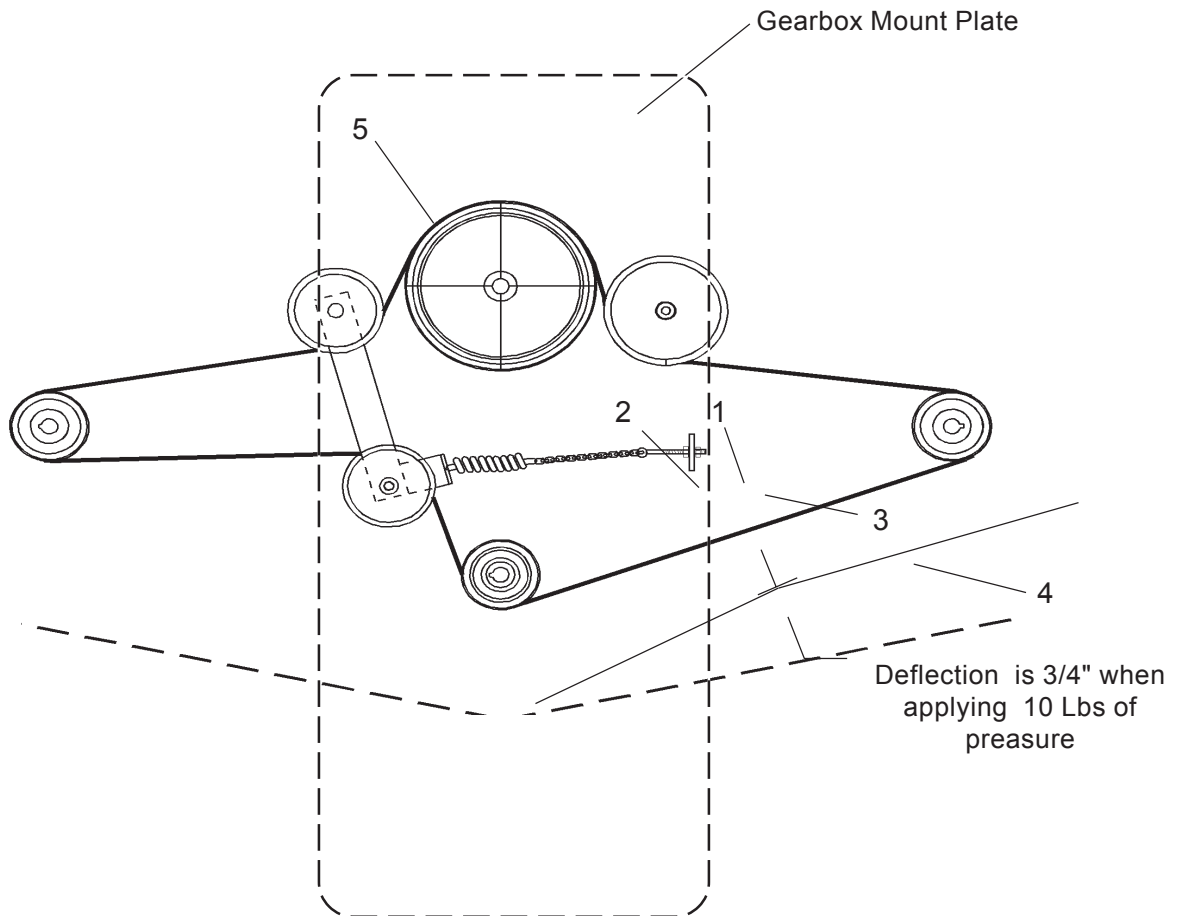

FIGURE 7
## BELT ADJUSTMENT PROCEDURE Figure 7.
## BELT REMOVAL/INSTALLATION Figure 7.
Shut off mower and tractor. Remove belt shield fasteners and belt shields. Loosen tension on belts as described above. Slip old belts under gearbox mount plate and under center spindle sheave (item 5). Slip new belts under gearbox mount plate and under center spindle sheave. Feed belts as shown in Figure 7 and tighten belts as described in the Belt Adjustment Procedure. Reinstall shields and shield fasteners.